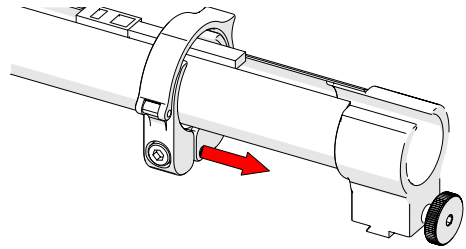

Fig. 108 - Slide clamp onto mount
3. Slide the clamp over the tube and cable management dovetail mount, pinching the tube in between (*Fig. 108*).